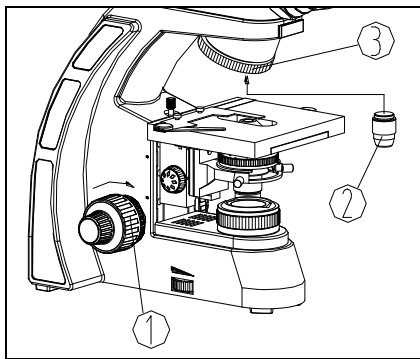

Fig. 5
1. Rotate the coarse focusing knob① to lower the stage to a suitable position (see Fig. 5).
2. Install the objectives② into the objective nosepiece③ from the lowest magnification to the highest in a clockwise direction from the rear.